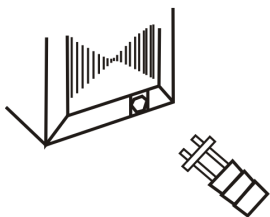

Figure 6
4. Install the drain tube connection into the hole provided at the rear of the air conditioner chassis. (Figure 6). To meet the different requirements of different types of air conditioners, there are two methods for treating the condensed water: back drainage or bottom drainage.